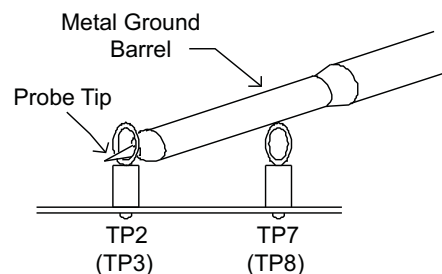

Figure 3. Recommended "Tip and Barrel" Technique to Measure Output Ripple Voltage
3. Use “Tip & Barrel” technique shown in Figure 3 to probe VOUT1 and VOUT2 during test procedure.